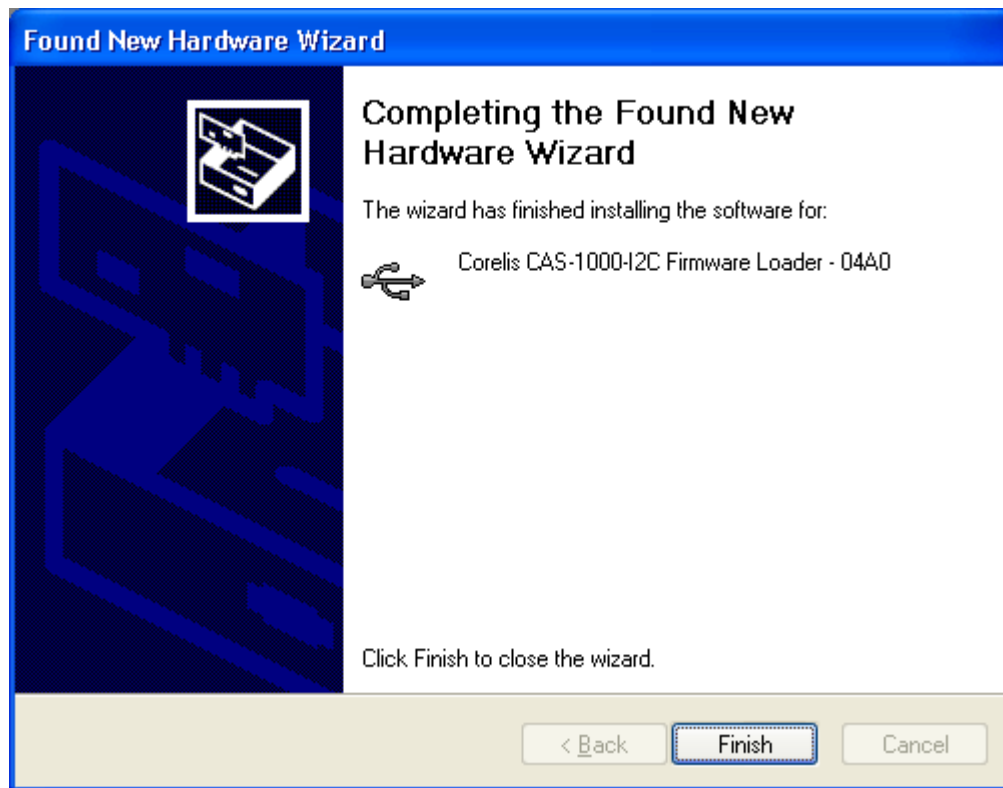

Figure 17. Found New Hardware Wizard – Installation Complete (Windows XP)
7. After the necessary files are copied to the system, the dialog box shown in Figure 17 will appear indicating that the driver has been successfully installed.